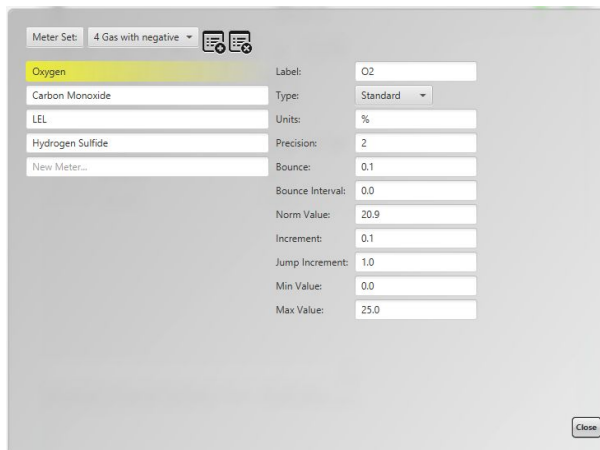

Figure 17: Edit Meter Window
3. Select a Meter Set (see Figure 17)